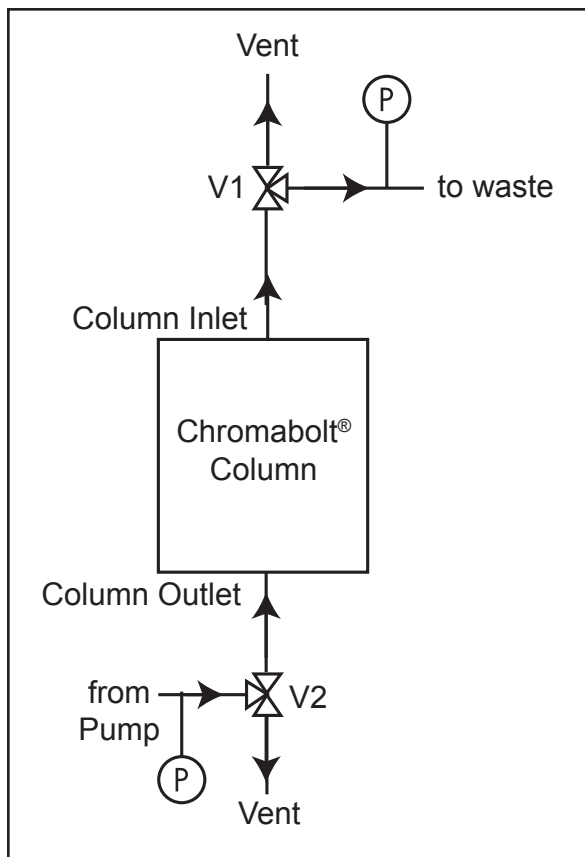

Figure 4: Typical Column Set-up
6. Connect a tee with a pressure gauge to V1 (Figure 4).
7. Connect a tee with pressure gauge to V2 (Figure 4).